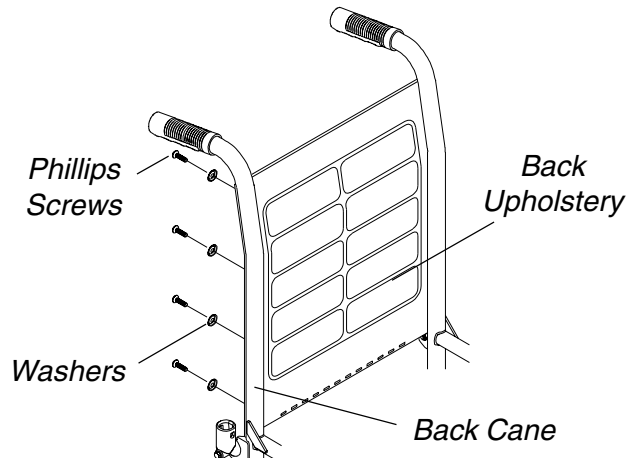

FIGURE 2 - REPLACING THE BACK UPHOLSTERY
**REPLACING THE BACK UPHOLSTERY (FIGURE 2)**
1. Remove the eight (8) phillips screws and washers that secure the back upholstery to the back canes.
3. Secure the new back upholstery to the back canes with the eight (8) phillips screws and washers.